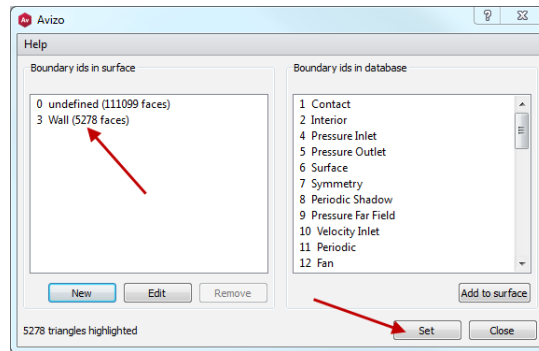

Figure 7.32: Setting the boundary ids.
- Repeat the operation as many times as needed to have no face left undefined (see Figure 7.32).